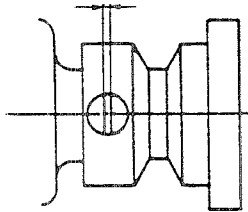

Fig. 5-43-2
- When fixing the handwheel, be sure that setscrew No. 1 ① are located on the flat part of the main shaft (observed from the correct rotational direction of rotation of the handwheel). At this time, adjust the clearance between the generator stator and the handwheel so that it is $1 (0.039") \pm 0.5 \text{ mm (0.020")}$. (Fig. 5-43-2)